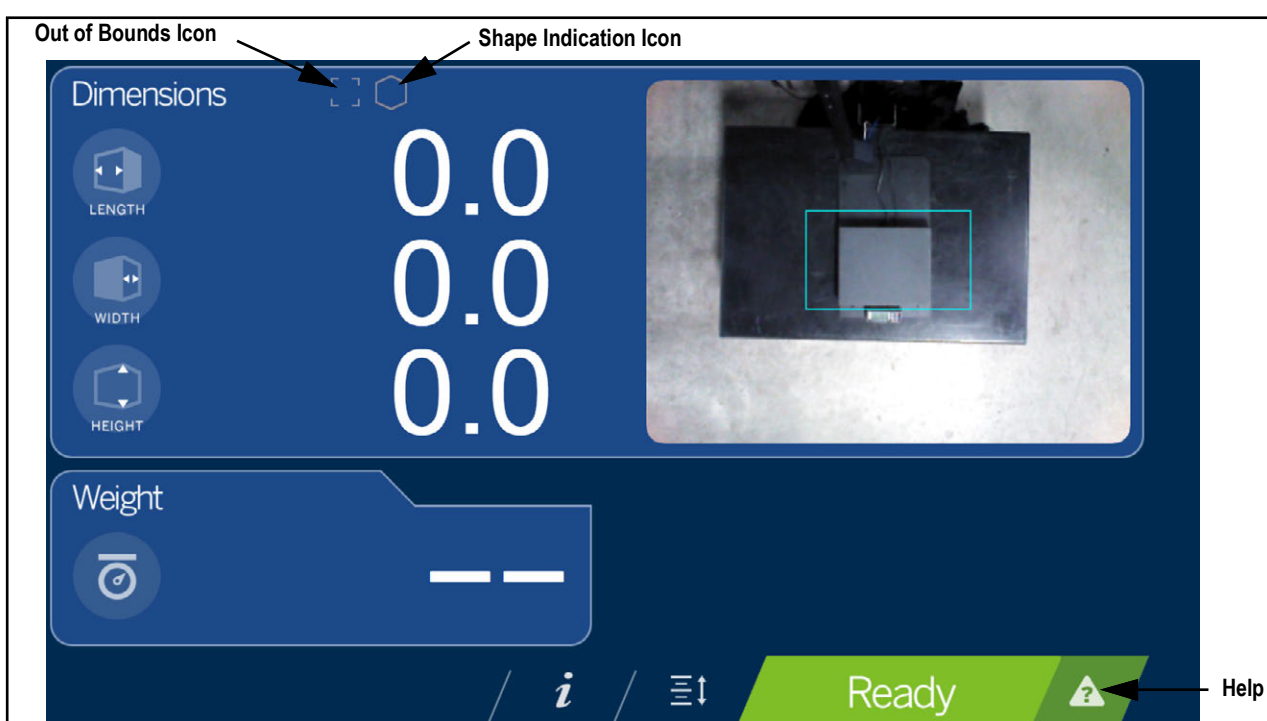

Figure 3-1. Touchscreen Display
A live image provides the user feedback on the placement of the item and conditions that may cause the system to be unable to dimension, for example out of bounds. The blue line shown in Figure 3-1, indicates the scan zone defined during initial setup.
The weigh area provides a real-time view of the scanning area from the scanning head onto the USB display. The blue box within Figure 3-1 is the **Scan Zone** which indicates the area the iDimension Plus will dimension.
5. Upon successful zero height calibration select . The display returns to the **Touchscreen Display** (Figure 3-1 on page 17).
1. Select the **Device Information** function key  located at the bottom of the screen (Figure 3-1 on page 17).